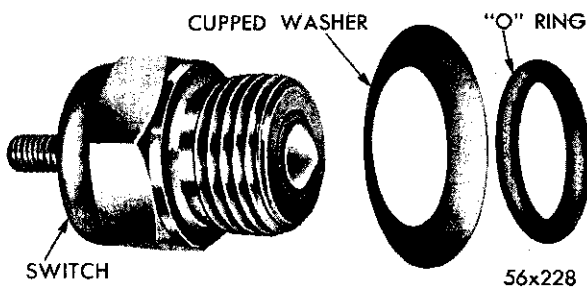

Fig. 20—Neutral Starting Switch
(4) Place the copper washer and "O" ring over the threads of the switch (Fig. 20), then screw the switch into the transmission case a few turns.
(5) Connect one lead of a test lamp to the battery current and the other lead to the switch terminal. Screw the switch into the transmission case until the lamp lights, then tighten switch an additional $\frac{1}{4}$ to $\frac{3}{8}$ turn.